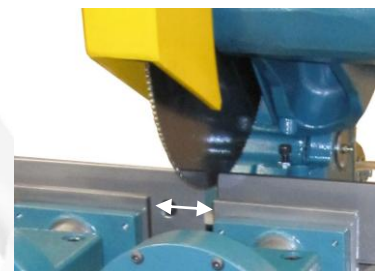

Figure 13. Vice-Blade Space
- v) Position the vice clamps as close to the blade as possible without interfering with the travel of the blade or guard, Figure 13. Vice relocation is required whenever the head angle is altered.